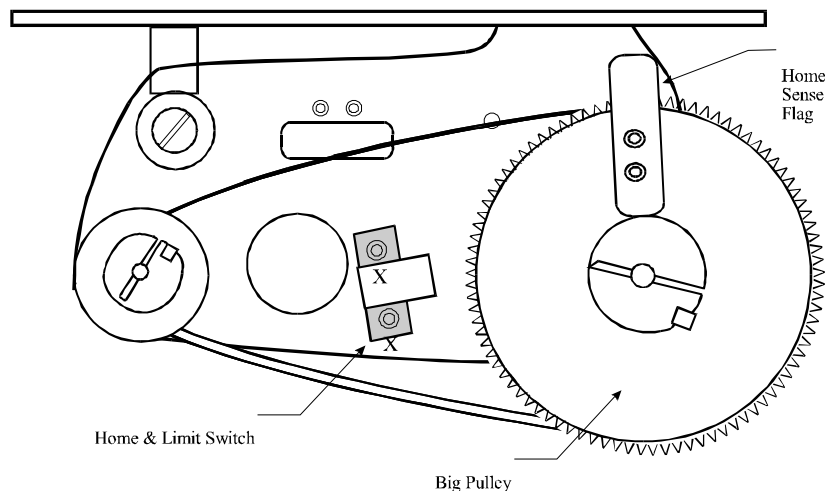

Figure 7-3: Inside the Atmospheric Pre-aligner End Cover
5. Remove the Pre-aligner end cover, which is opposite the CCDs. Refer to Figure 7-3 on page 7-19.